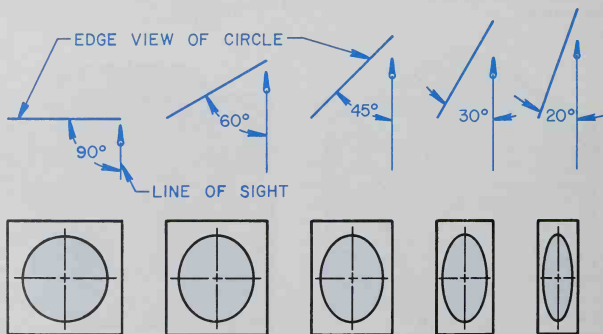
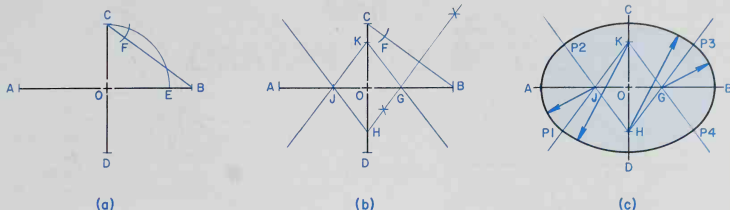

Fig. 6-7. When a circle is rotated on its axis away from an angle perpendicular to the line of sight, an ellipse is formed.
Fig. 6-8. Constructing the four-center approximate ellipse.
An ellipse is formed when a circle is viewed at an angle, Fig. 6-7. Ellipses may be drawn with the aid of an ellipse template or an approximate ellipse may be constructed mechanically with the four-center approximation method, Fig. 6-8. The procedure for
1. The major axis AB and minor axis CD are given, Fig. 6-8 (a).
4. Construct a perpendicular bisector of line FB and extend to intersect with the major and minor axes at G and H, Fig. 6-8 (b).
7. Using centers J and G, draw arcs JA and GB from P1 to P2 and P3 to P4, Fig. 6-8 (c).